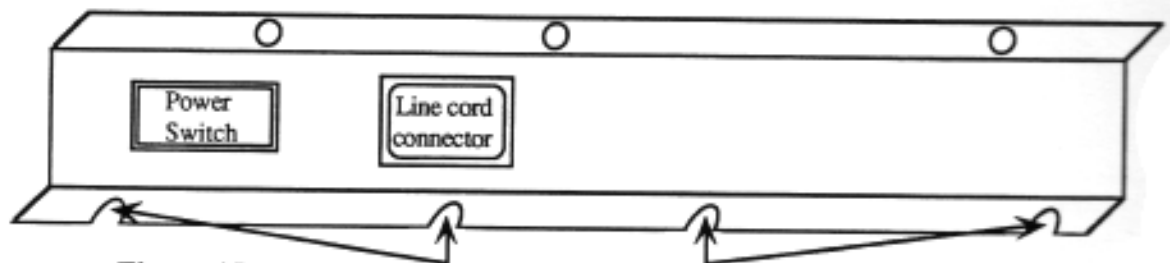

Figure 15 – To remove the SQ-1 rear power panel, remove these screws.
4. Remove the four (4) screws that hold the rear power panel to the unit (see Figure 15).
10. Attach the rear power panel to the unit (see Figure 15).
| Removing | <ol style="list-style-type: none">1. Remove all cables connected to the SQ-1, including the power cord.2. Turn the unit upside-down on a soft surface. Place something under the wheels to support them and to keep them from bending.3. Remove all the screws from the bottom plate.4. Remove the three (3) screws that hold the rear power panel to the unit (see Figure 15).5. Disconnect the following cables and wires from the Transformer Adapter Board (see Figure 3, p. 4):<ol style="list-style-type: none">a) the six (6) pin connector (J1) (note that this connector is keyed),b) the nine (9) pin connector (J2) (note that this connector is keyed),c) P1 (L) wire from the line cord connectord) P2 (SW) wire from the power switche) P3 (SW) wire from the power switchf) P4 (N) wire from the line cord connectorg) P5 (T) wire from the transformerh) P6 (T) wire from the transformer6. Remove the four (4) screws (Phillips or hex-head) that secure the Transformer to the case.7. Remove the four (4) (Phillips or hex-head) and one star washer that the Transformer Adapter board (see Figure 3, p. 4) to the case. |